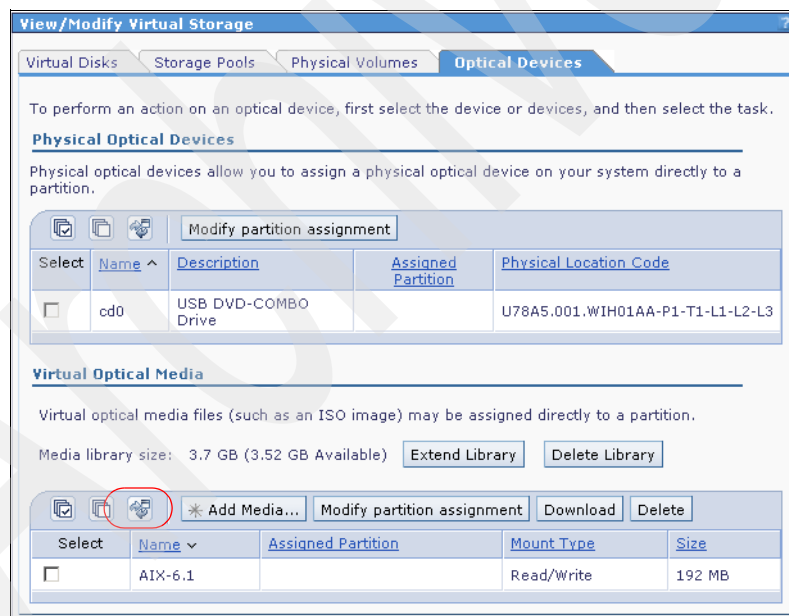

Figure 4-10 Media library - newly created media
- After closing the browser window of the add media dialog, you return to the view shown in Figure 4-10. The new media is already listed here. Clicking **Refresh** updates the size information during the copy operation.